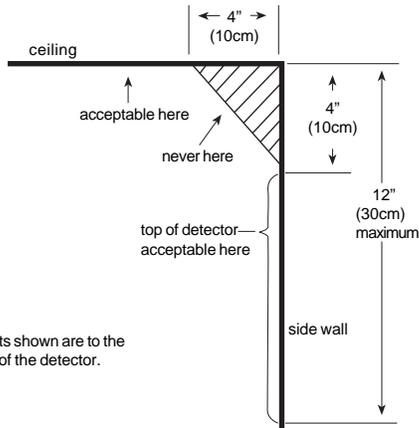

Figure 2. Detector Placement
- Locate wall-mounted smoke detectors so the top of the alarm is 4 to 12 inches (10 to 30cm) below the ceiling. See Figure 2.